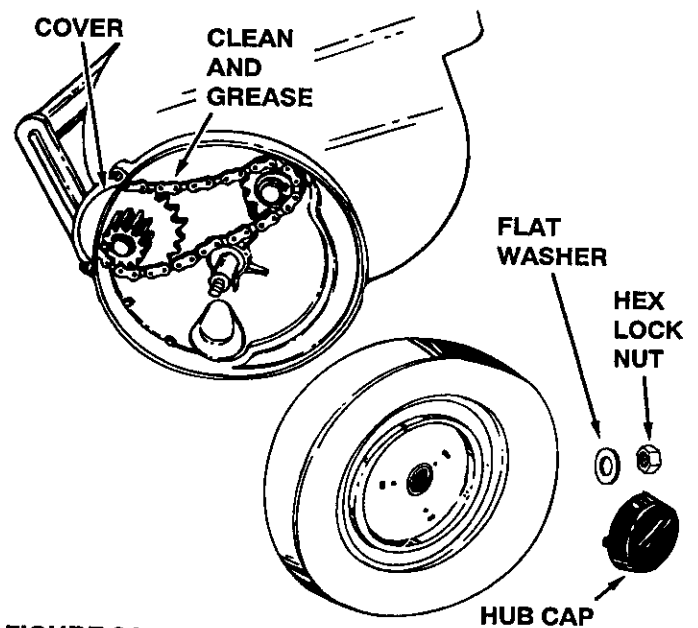

FIGURE 24
- Every two years, remove the wheels and clean the sprockets, chains and gears found inside the wheel housing. After cleaning, lubricate with an even coat of light grease. To remove the wheel, pop off the hub cap using a screwdriver and remove the lock nut and flat washer. See figure 24.